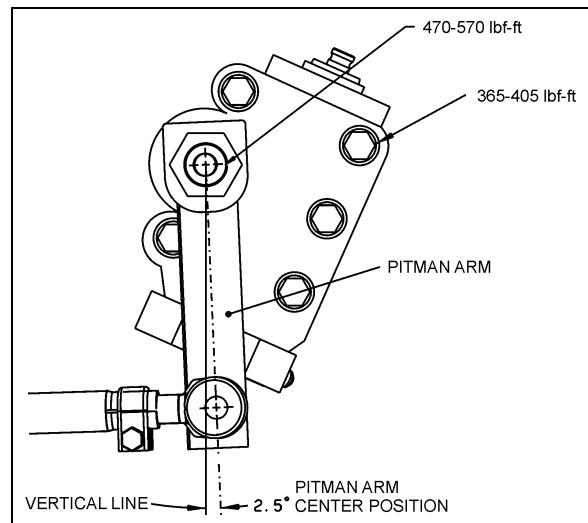

FIGURE 14: PITMAN ARM ADJUSTMENT 14037
2. Using a protractor, check the angle of the pitman arm (refer to Fig. 14 for details).